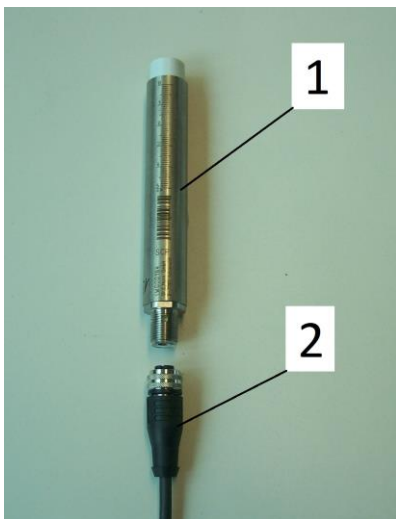

Fig. 96: Caps
3. Loosen the sensor cable from the sensor and place a cap on the sensor cable (Fig.96/2) as well as another one on the sensor (Fig.96/1) itself.